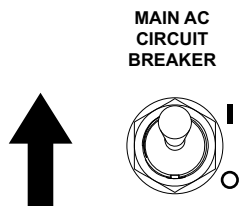

Figure 3-41. Main AC Circuit Breaker ON (I)
- See Figure 3-41. Switch main circuit breaker to ON (I).